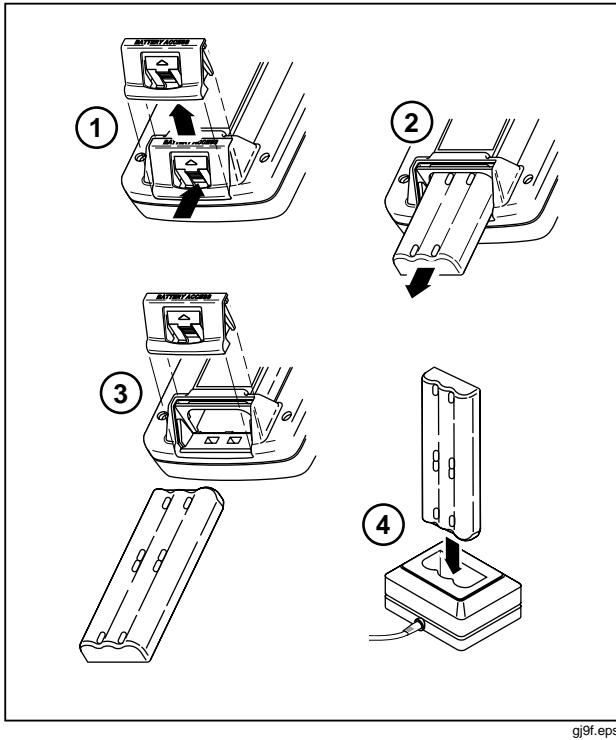

Figure 9. Removing the Battery and Using the Charger
1. When you first unpack the calibrator, you will need to charge the battery. See Figure 9 and charge the battery for 2 hours.
Figure 9 shows how to remove the battery. Remove the battery door and tap the calibrator with your hand to get the battery out. Place the battery in the charger and connect the charger to line power. The charger automatically senses line voltage and adjusts itself accordingly.